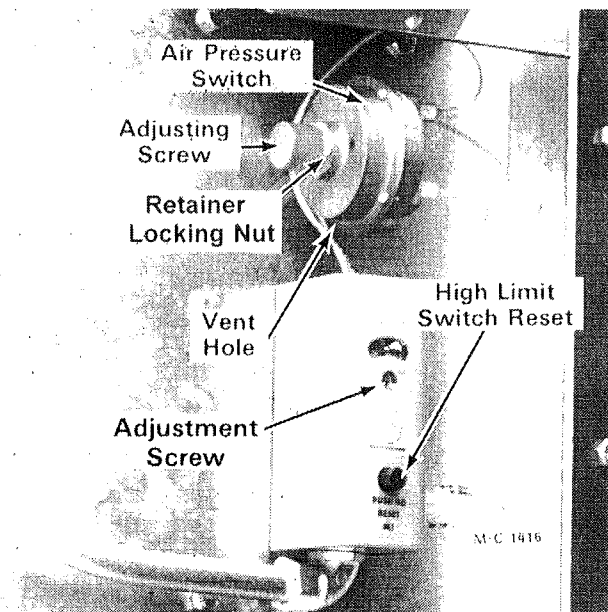

Figure 17
1. There is an air pressure switch for each heat chamber, see Figure 17. The air pressure switch detects static air pressure in the heat chamber when the dryer is full of grain and the fan is running. If the static air pressure drops because of fan failure, the air pressure switch opens stopping current flow to the ignition switch. The gas
1. Remove the plastic cap on the air pressure switch. The slotted screw is the adjusting screw. See Figure 17.
9. If the high limit switch trips out, close the gas hand valve and turn the ignition switch OFF. Push the reset button on the high limit switch to reset it. See Figure 17. Adjust high limit 30° to 50° above operating temperature. This will avoid nuisance shutdowns during start up.